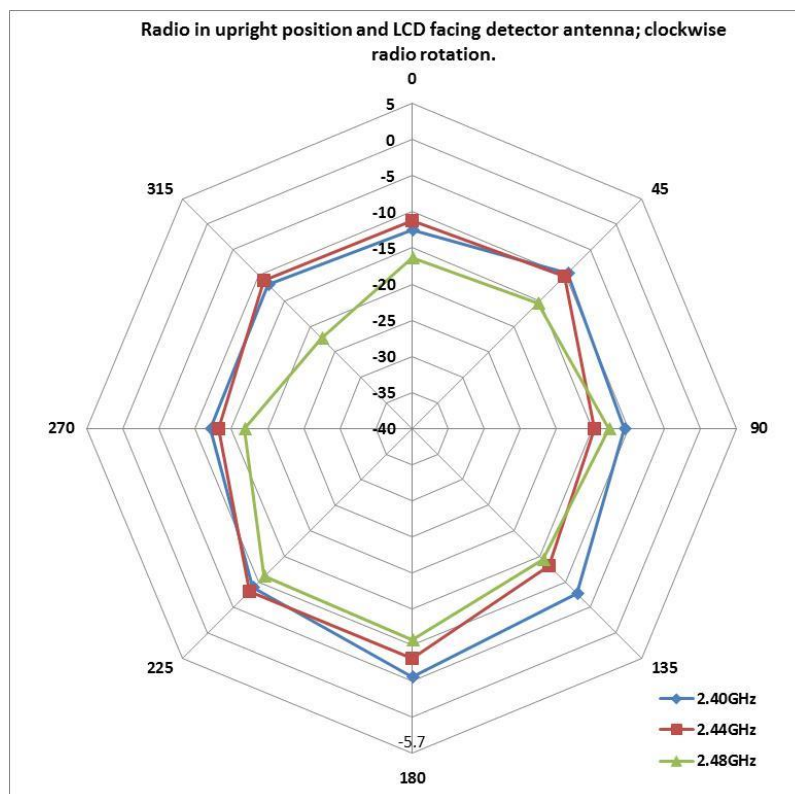
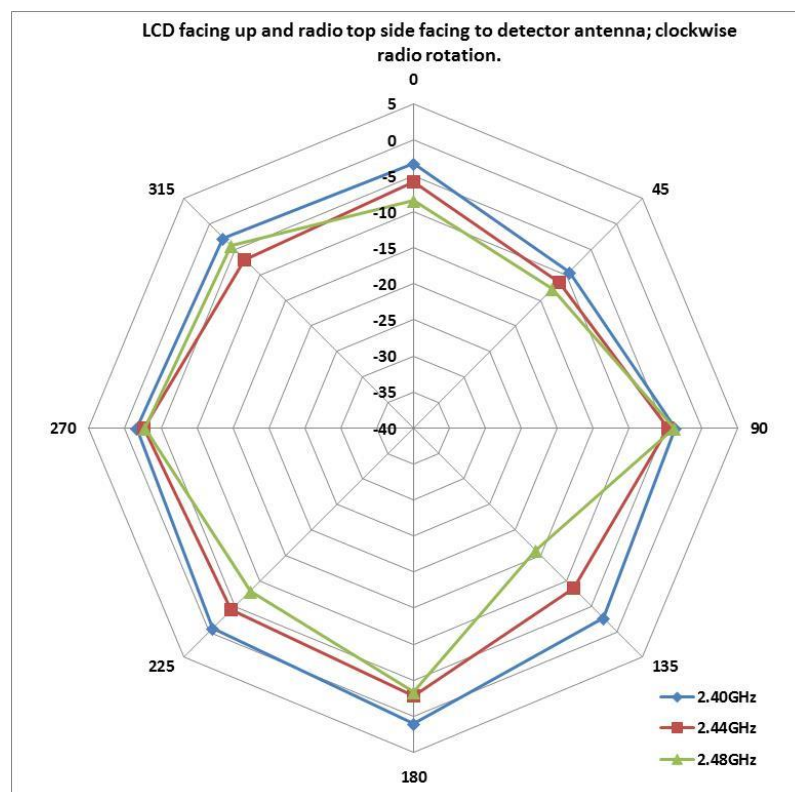
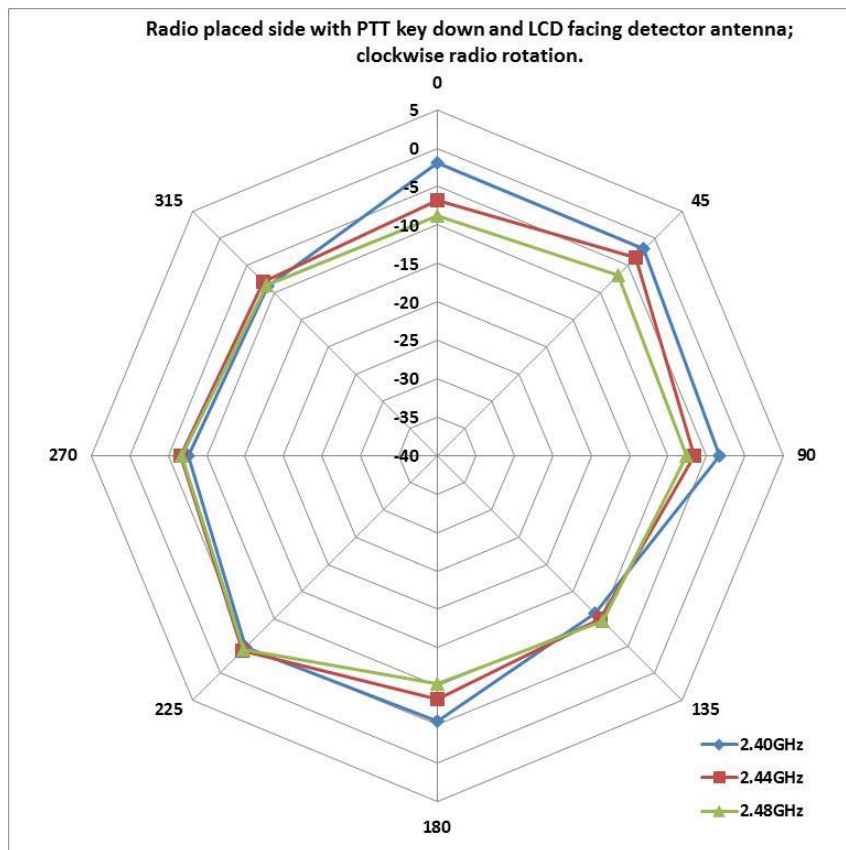

Figure 3: Radio in upright (i.e. vertical) position (0^0 equals facing LCD)
Figure 4: Radio in horizontal position (i.e. resting on battery side; 0^0 equals TETRA antenna pointing towards the detector antenna)
Figure 5: Radio placed on its side (PTT key facing down) and LCD facing detector antenna
* +1.0dBi maximum gain was measured with the tested unit (at 180⁰ angle on Figure 4).
The measured antenna gain (dBi) performance is shown in Figure 3, Figure 4 and Figure 5.